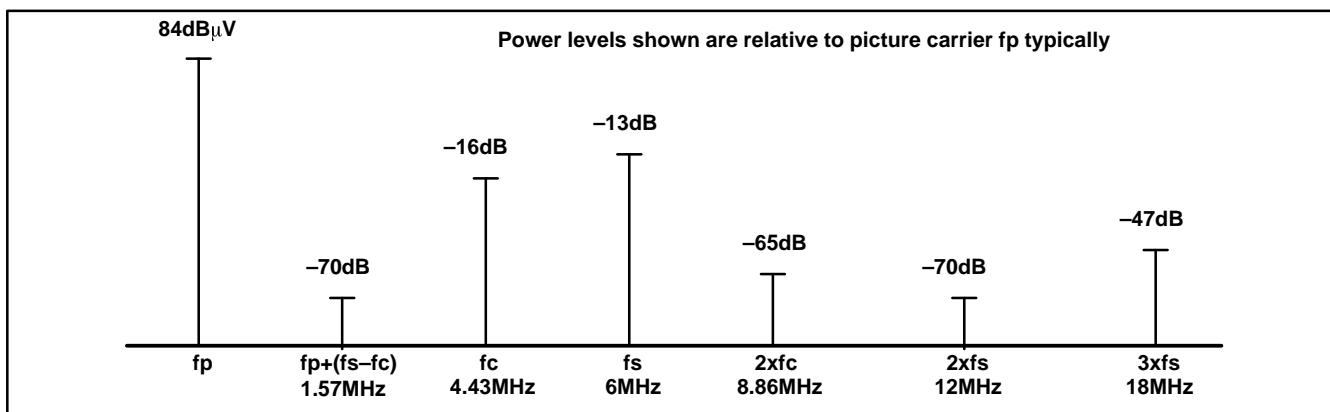
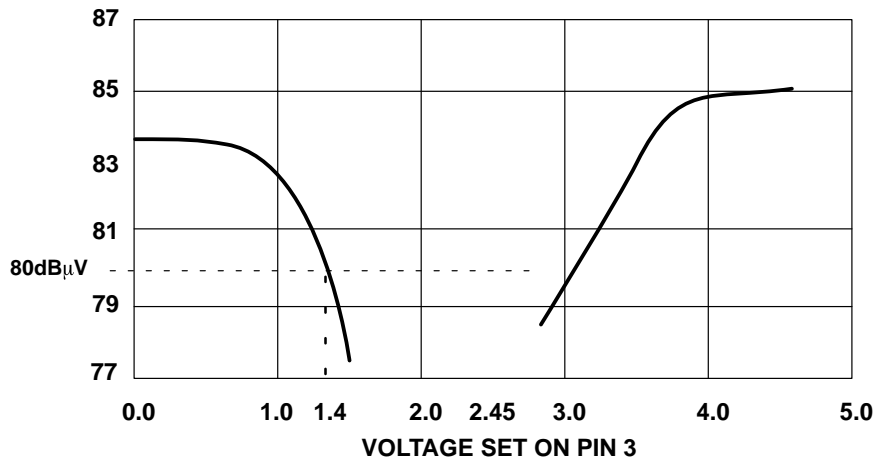

Fig. 3 Frequency spectrum above the Video picture carrier ($Q_{TANK} = 9$)
Fig. 4. Picture carrier, unmodulated RF output level
- May be increased by use of external resistor, see Fig. 3
- May be adjusted by use of external resistor dependent on video content, see Fig. 4
Pin 3 (MOD INDEX) is used to control both RF carrier amplitude and video polarity, see Fig. 3. Since the video input is internally AGC'd, varying the carrier amplitude will also adjust the video modulation index, see Fig. 4.
For example, for a negative modulation (PAL or NTSC) with an 80% modulation index, pin 3 should be set to 1.1Volts (see Fig. 4). This voltage corresponds to an unmodulated RF output level of 82dB μ V, see Fig. 3.
As already stated, great care must be taken with the mod index pin, pin 3. This should be decoupled with chip components as close to the pin as possible. Ideally the mod index should be defined with a DC voltage, thus requiring the use of two external resistors, see Figs 4 and 5. It is also possible to define mod index through the use of a single resistor connected to ground or V_{CC} depending on whether negative or positive modulation is required.